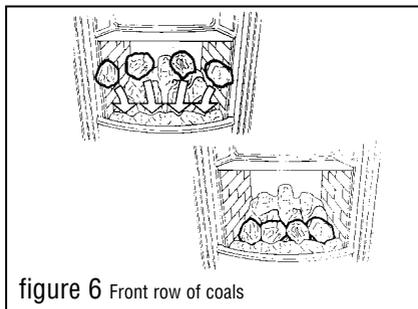

figure 6 Front row of coals
- 3.1 Place 4 of the medium size coals in the valleys of the front coal (See figure 6).